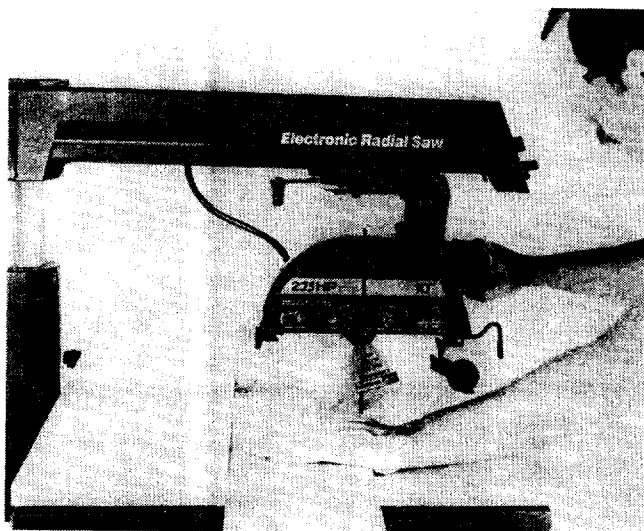

Fig. 146 - Distance Needed to Complete Crosscut
13. Pull blade through fence and workpiece just enough to complete the cut. Fig. 146.